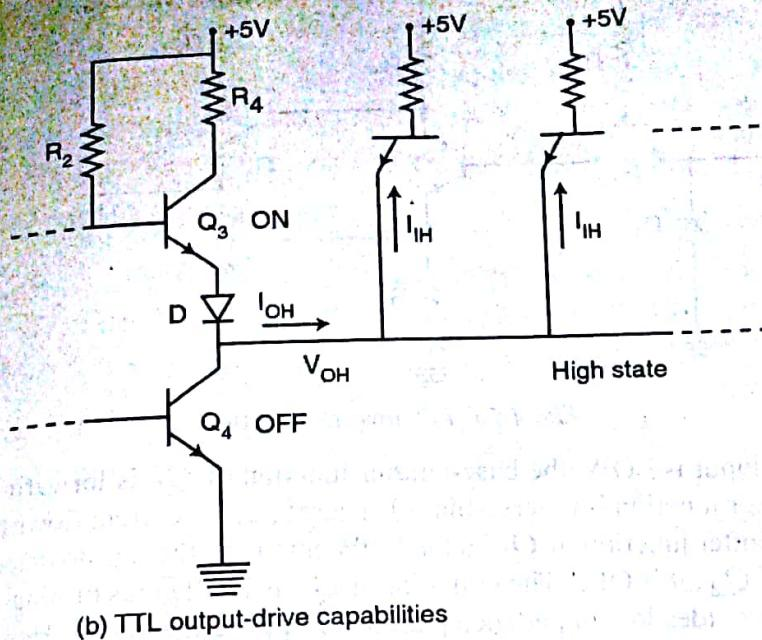

Fig. 4.14
**Loading rules** A single TTL output in the LOW state connected to several TTL inputs is shown in Fig. 4.14(a). Transistor  $Q_4$  is ON and is acting as a current sink for all the currents ( $I_{IL}$ ) coming back from each input. Although  $Q_4$  is saturated, its ON state resistance is some value other than zero, so the current  $I_{OL}$  produces an output voltage drop  $V_{OL}$ . The value of  $V_{OL}$  must not exceed 0.4V for TTL, and this limits the value of  $I_{OL}$  and thus the number of loads that can be driven.
Fig. 4.14(b) shows the HIGH-state situation. The transistor  $Q_3$  is acting as an emitter-follower and is sourcing current to each TTL input. If too many loads are driven, however, the total output current  $I_{OH}$  can become too large, causing larger drops across  $R_2$ ,  $Q_3$  and  $D$ , thereby lowering  $V_{OH}$  below the minimum allowable voltage 2.4V.